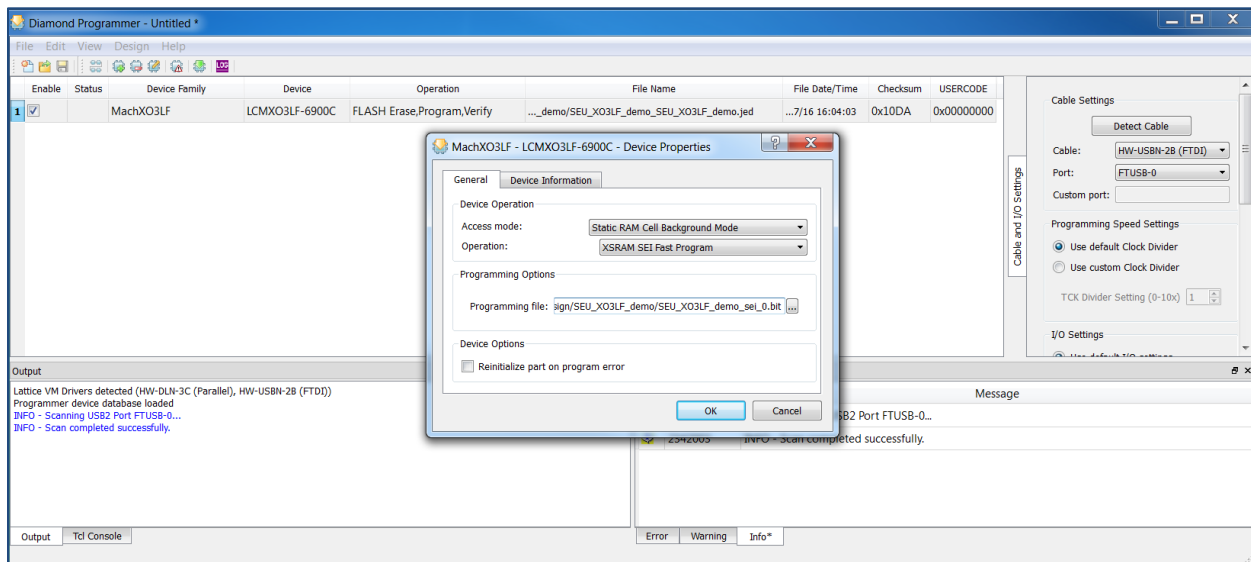

Figure 8.8. Access Mode – Static RAM Cell Background Mode
3. Select *Static RAM Cell Background Mode* in the **Access mode** option and *XSRAM SEI Fast Program* in **Operation** as shown in Figure 8.8.